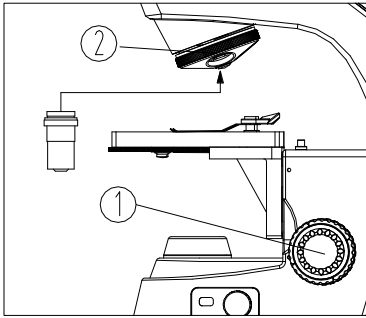

Fig.3
1. Rotate the coarse focusing knob (1) to lower the stage to a suitable position (see Fig.3).
2. Then install the objectives into the nosepiece (2) from the lowest magnification to the highest in clockwise direction.